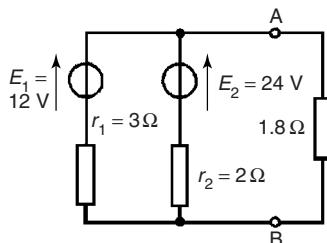
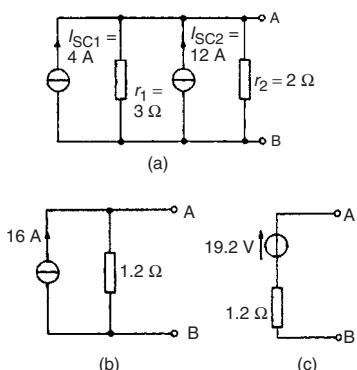

Figure 13.71
Figure 13.72
Problem 20. (a) Convert the circuit to the left of terminals AB in Fig. 13.71 to an equivalent Thévenin circuit by initially converting to a Norton equivalent circuit. (b) Determine the current flowing in the $1.8\ \Omega$ resistor.
- (a) For the branch containing the 12 V source, converting to a Norton equivalent circuit gives $I_{SC1} = 12/3 = 4\text{ A}$ and $r_1 = 3\ \Omega$. For the branch containing the 24 V source, converting to a Norton equivalent circuit gives $I_{SC2} = 24/2 = 12\text{ A}$ and $r_2 = 2\ \Omega$. Thus Fig. 13.72(a) shows a network equivalent to Fig. 13.71
From Fig. 13.72(a) the total short-circuit current is $4 + 12 = 16\text{ A}$ and the total resistance is given by $(3 \times 2)/(3 + 2) = 1.2\ \Omega$. Thus Fig. 13.72(a) simplifies to Fig. 13.72(b). The open-circuit voltage across AB of Fig. 13.72(b), $E = (16)(1.2) = 19.2\text{ V}$, and the resistance 'looking-in' at AB is $1.2\ \Omega$. Hence the Thévenin equivalent circuit is as shown in Fig. 13.72(c).
- (b) When the $1.8\ \Omega$ resistance is connected between terminals A and B of Fig. 13.72(c) the current